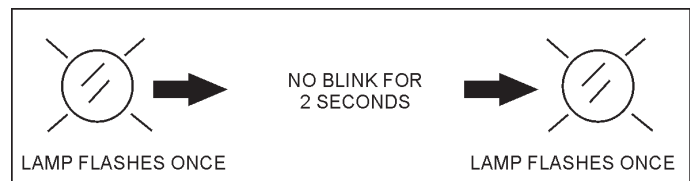

Figure 72. Normal Operating Code
5. After all engine related malfunctions have been diagnosed and corrected, and the generator is operating in a normal manner the following code (Figure 72) should be displayed once the reset button is pressed and released